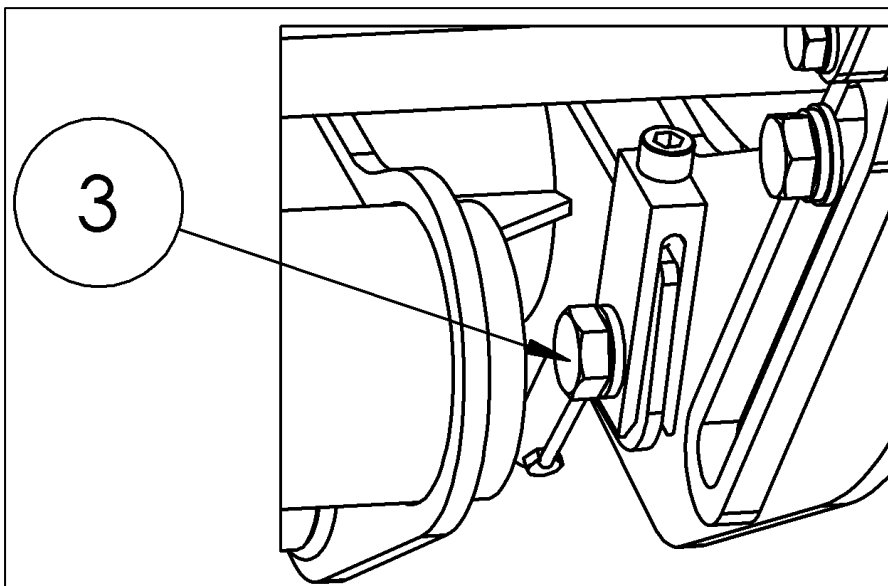

Fig. 71
- When finished adjusting, tighten the bolt (3) for securing the torsion bar to 115 Nm (see torque table on page 69 and see Fig. 71).